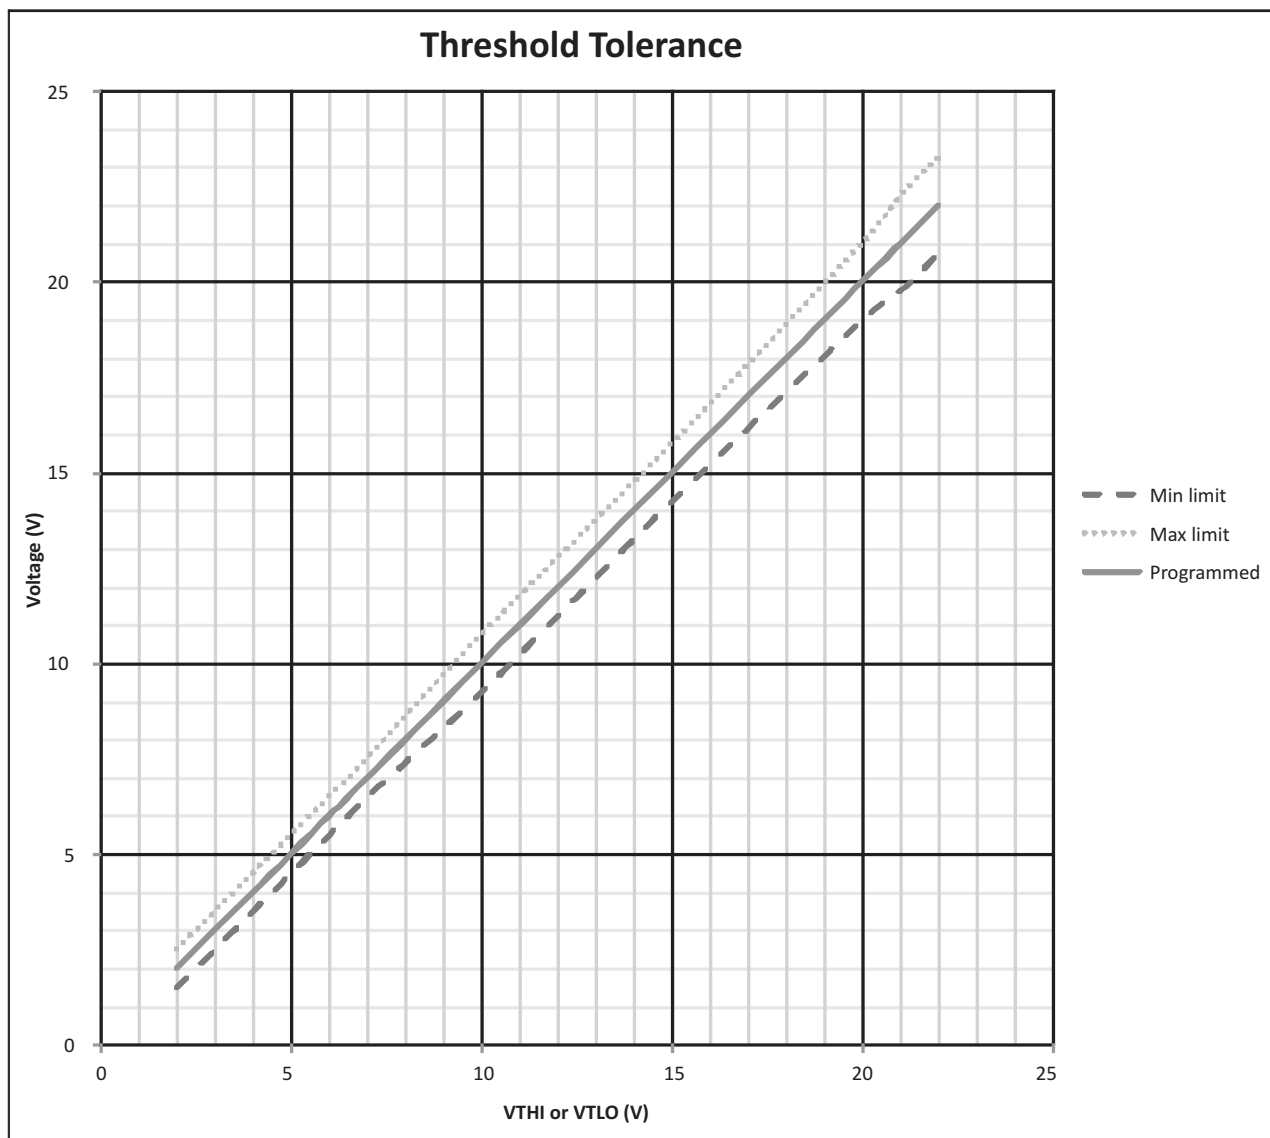

Figure 11: Threshold tolerance over Programmed value
* See Figure 11 for guaranteed tolerance for programmed VTHI and VTLO